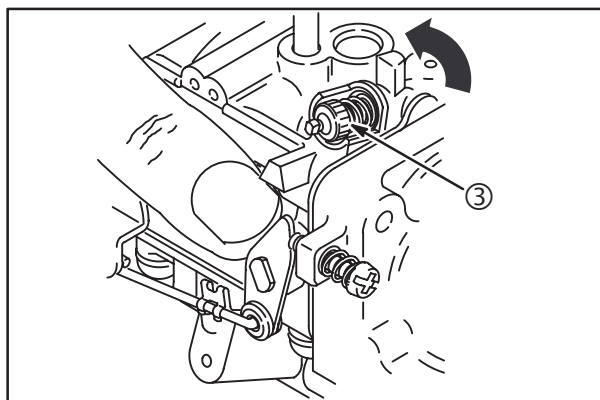

Fig. 20
5. Then turn idle mixture screw (3) **COUNTER-CLOCKWISE 3/8 turn**, **Fig. 20**.